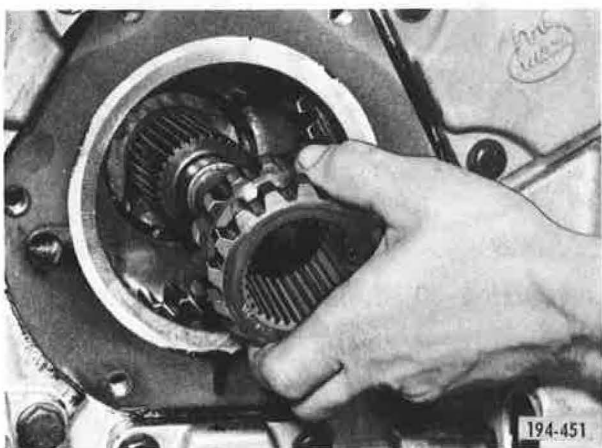

Figure 5-73. Removing Fourth/Fifth Speed Sliding Clutch
7. Remove fourth/fifth speed sliding clutch from mainshaft. See Figure 5-73.